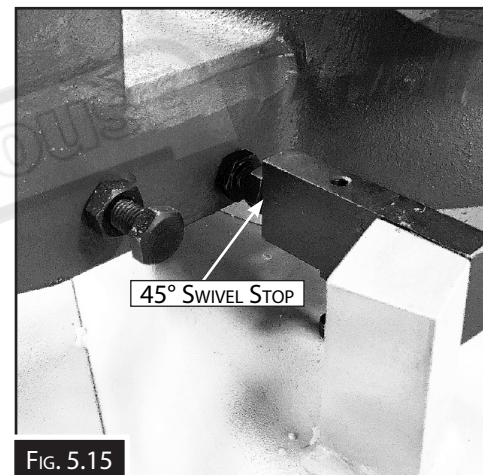

FIG. 5.15
3. Raise the saw bow, then move the head and set the scale to 45°, (Fig. 5.15) then lower the saw bow and lock in place.
4. Check that the 45° head stop is hard up against the casting. If there is a gap between the casting (Fig. 5.15) and the stop screw, then loosen the lock nut and adjust the stop bolt until it rests against the casting.